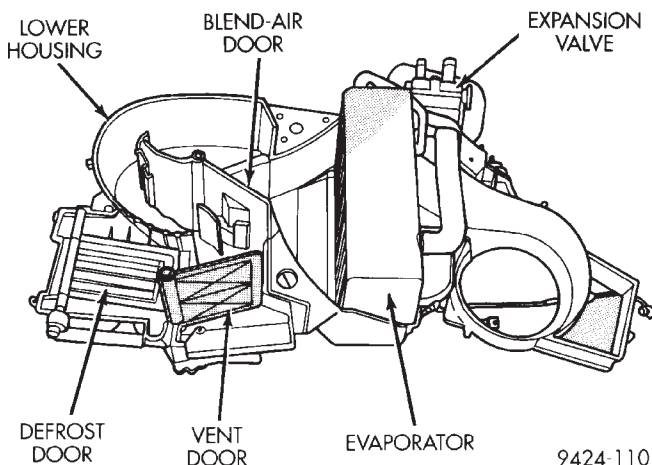

**Fig. 42 Lower Housing**
- (6) Remove upper half of heater housing (Fig. 42).